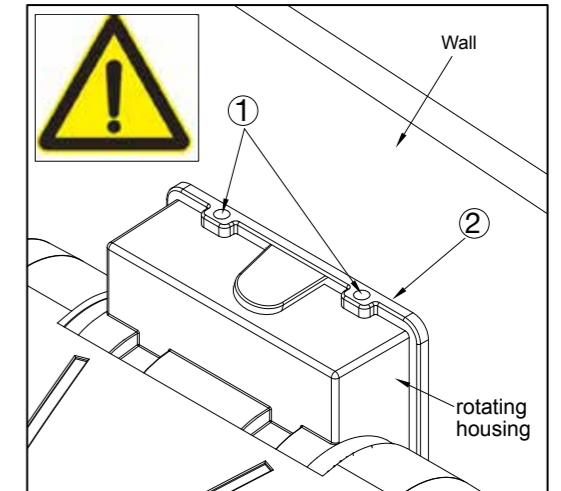

Figure 9
5. There are two through holes on the top of the rotating housing, and the gap between the rotating housing and the wall requires an electrician to apply waterproof glue for waterproofing. Figure 9.